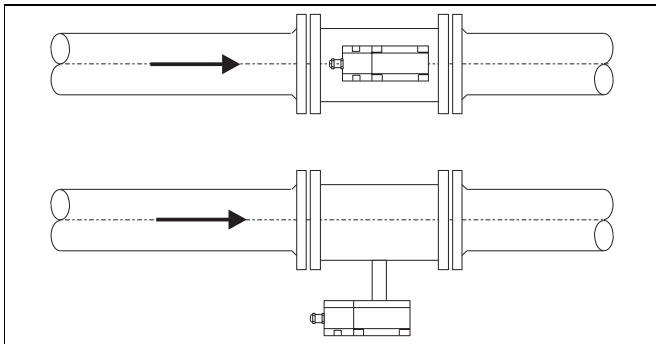

Fig.4 Installation for High Fluid Temperatures >150 °C
- the flowmeter primary must be installed with the electronic components located on the side or towards the bottom of the pipeline the fluid temperatures are high (Fig. 4).
The relationship between the fluid and ambient temperatures must be considered as indicated in Fig. 4.